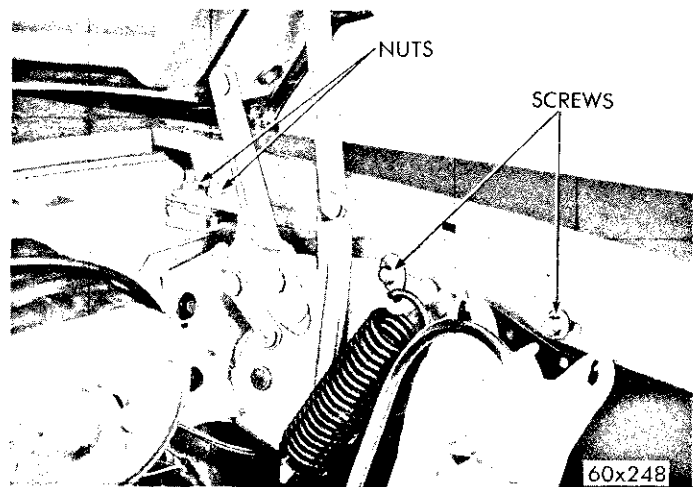

Fig. 6—Fender to Cowl Mounting
- (1) Drain the radiator and remove the battery.
- (2) Remove the front bumper and the hood assembly.
- (3) Disconnect the radiator hoses from the radiator, the heater hoses, the hood latch cable at the latch, the head lamp wires and the horn wires.
(4) Remove the hood hinge to the fender mounting screws (1 each side).
(5) Remove the screws attaching the voltage regulator, horn relay or starter solenoid from the fender splash shields.
(6) Remove the upper nuts and studs (two at each side) attaching the fender to the cowl panel (Fig. 6).